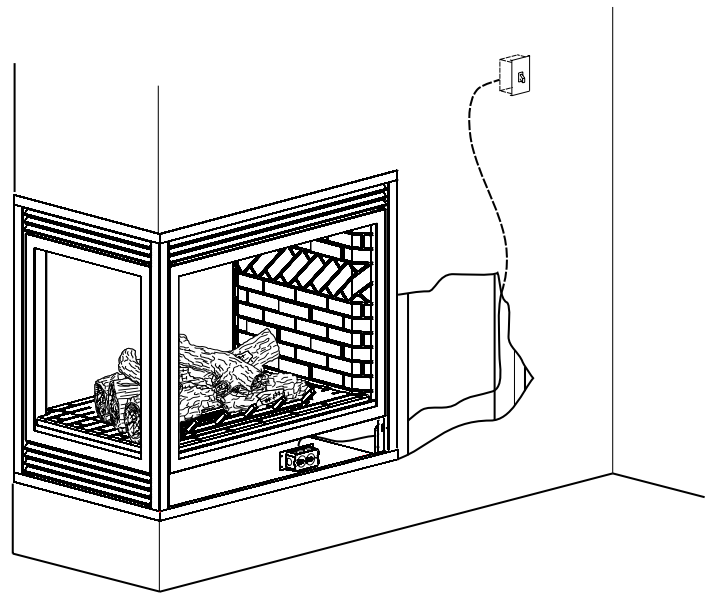

Figure 70
**Note:** Junction box is to be located in the lower compartment of the fireplace and must be pre-wired at time of fireplace installation for use with blower assembly. A standard ON/OFF wall switch or SCV-1 variable speed control kit should be installed to activate power to the Junction Box and provide power for the operation of the blower assembly. It is recommended that installation of the wiring be performed by a qualified electrician. **See Figure 70.**
8. To complete the installation, plug the power cord into the junction box receptacle previously installed in the bottom of the fireplace. **See Figures 70 and 71.**